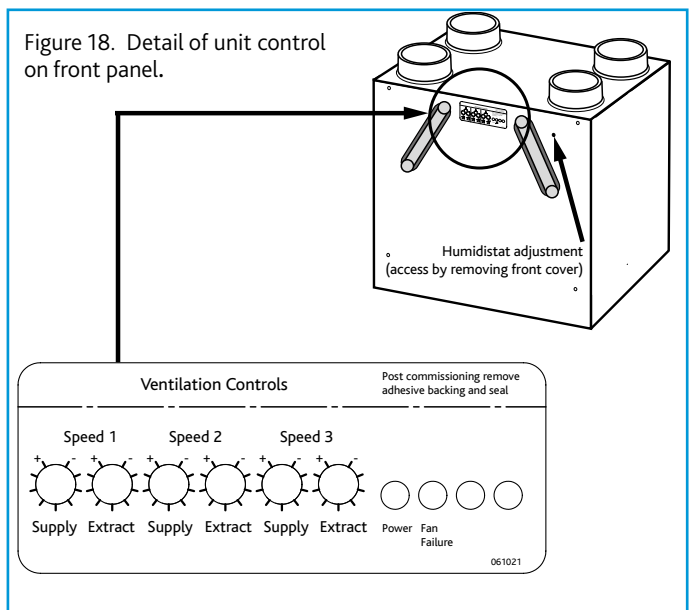

Figure 18. Detail of unit control on front panel.
- The unit is supplied with independent control for the various speed airflows, see fig. 18.
This product contains an internal humidity sensor fitted into the air-flow extracting from the wet rooms. When the unit senses that the humidity exceeds the set point, the unit will boost to that set by the commissioned boost speed. The set point can be found on the front of the unit (see fig. 18) and is at its least sensitive when turned fully clockwise. Note that the sensor is measuring humidity from all the wet rooms at the same time and should not be relied on to solely boost the unit.